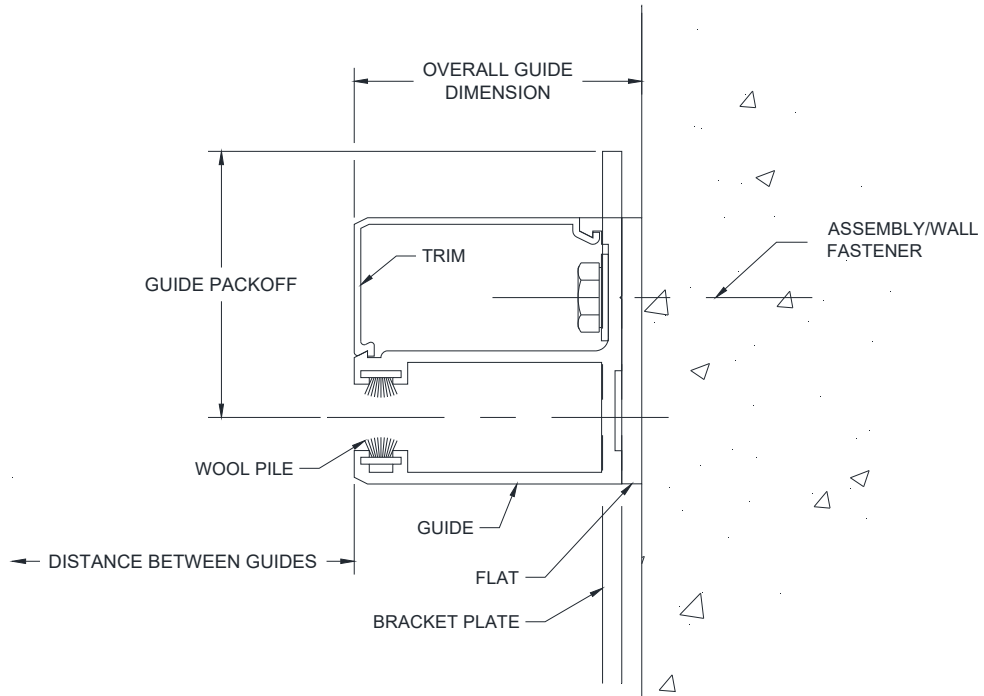

Figure 5.9 – Between Jamb Units with Back-Up Flat
- Between Jamb Units Mounting to Wall (Figures 5.9 - 5.10):